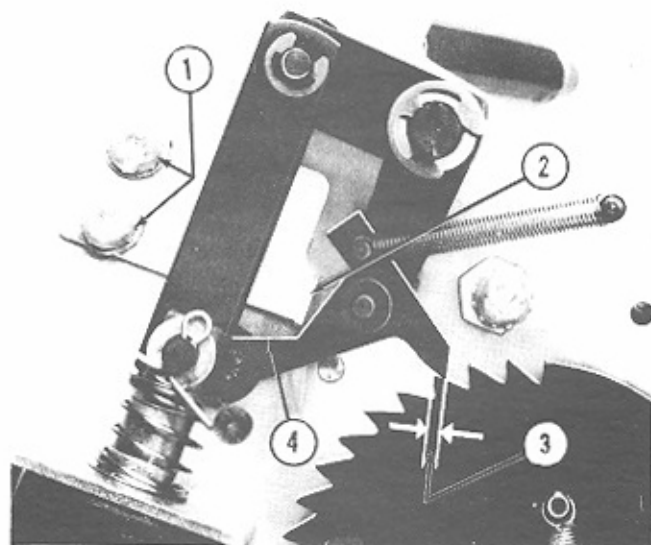

Fig. 18. CANCEL PAWL STOP BRACKET ADJUSTMENT
(5) The cancel pawl stop bracket should be adjusted by means of its mounting screws to provide engagement of the cancel pawl with the adjacent cancel wheel tooth at a point about 1/3 of the slant surface of the tooth as shown in Figure 18. The bracket should be entirely free, from surface of the cancel pawl marked "No drag", during its entire cancellation action.